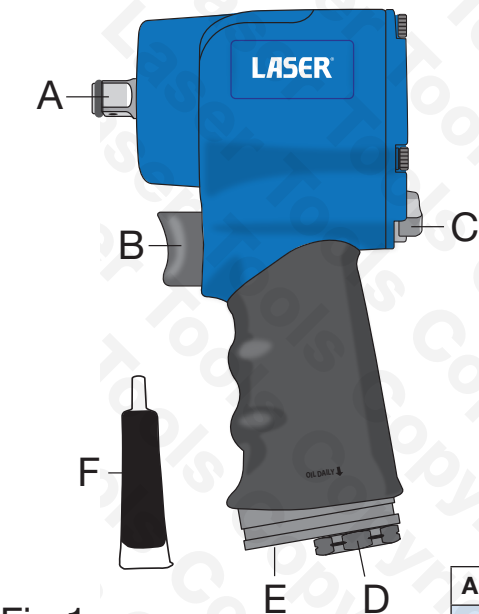

Fig 1
- Squeeze the trigger (**B** in **Figure 1**) to start the wrench.